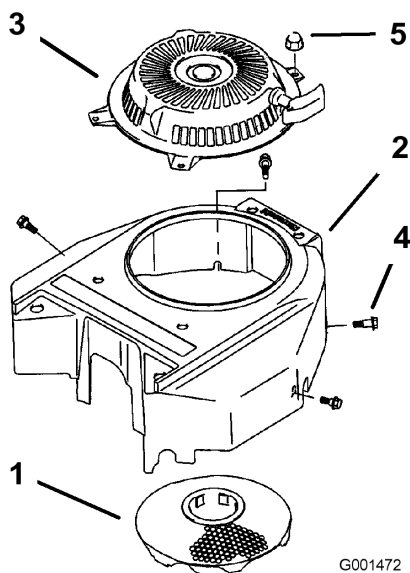

Figure 30
3. Remove the air intake screen, recoil starter and fan housing (Figure 30).
5. Install air intake screen, recoil starter and fan housing (Figure 30).